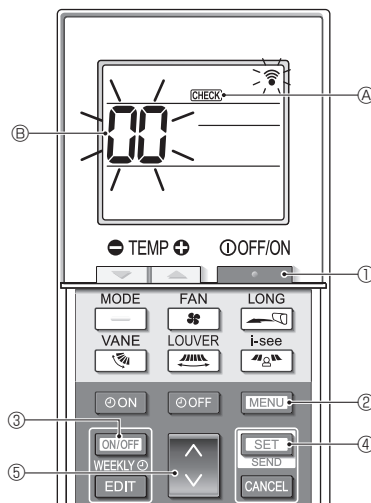

Fig. 7-6
■ Self-check (Fig. 7-6)
- Press the [ON/OFF] button ① to stop the air conditioner.
- If the weekly timer is enabled (WEEKLY is on), press the [ON/OFF WEEKLY] button ③ to disable it (WEEKLY is off).
- Press the [MENU] button ② for 5 seconds.
- CHECK ④ comes on and the unit enters the self-check mode.
- Press the [DOWN] button ⑤ to select the refrigerant address (M-NET address) ⑥ of the indoor unit for which you want to perform the self-check.
- Press the [SET] button ④.
- Press the [ON/OFF] button ①.
- CHECK ④ and the refrigerant address (M-NET address) ⑥ go off and the selfcheck is completed.